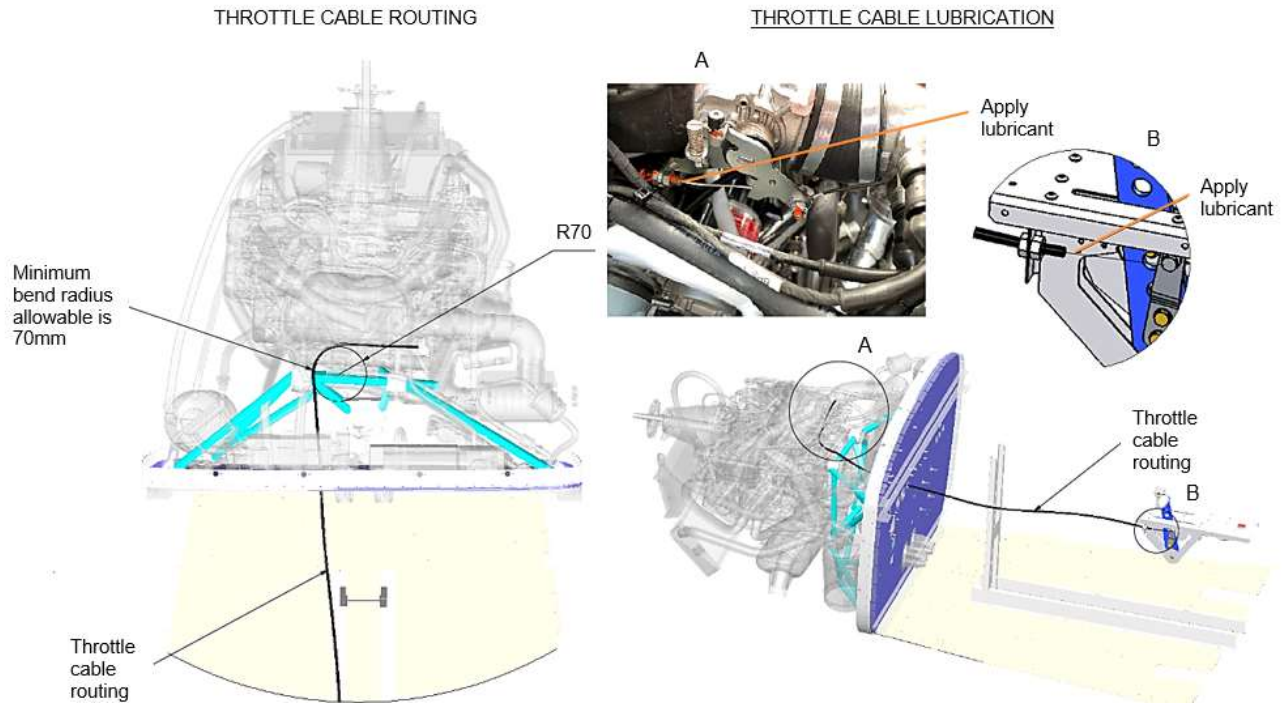
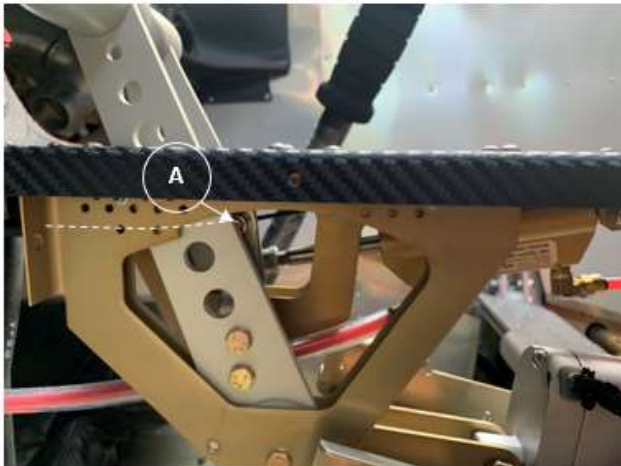

Figure 52: Installation guide and lubrication requirements
Figure 53: Inspect inner cable for kinking
3. Check that the bolt (A), shown in Figure 53, which attaches the inner stainless-steel cable to the throttle link, can swivel freely. Verify that the throttle cable is routed such that the minimum bend radius is 70mm as shown in Figure 52. Lubricate both ends of the throttle cable as shown in Figure 52..Hold the aerosol straw into the end fitting (in the direction indicated by the arrows in Figure 52 then apply the lubricant; moving the throttle knob forward and aft to guide the lubricant into the fitting. Verify that the inner cable does not kink as shown in Figure 53.